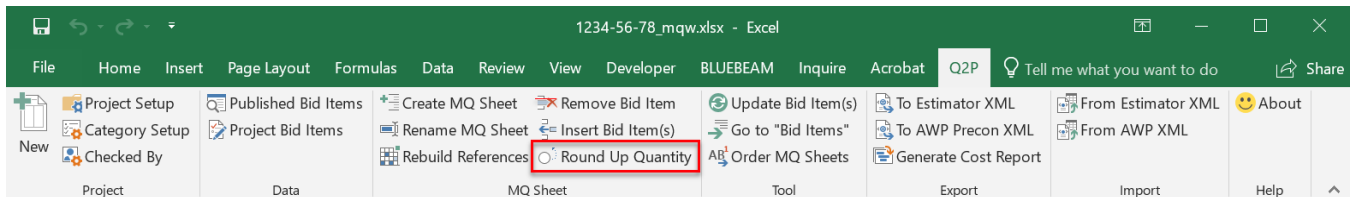

Figure 10.5 "Round Up Quantity" command.
**Q2P > MQ Sheet > Round Up Quantity** (Figure 10.5) will round up the selected quantity to the next integer.